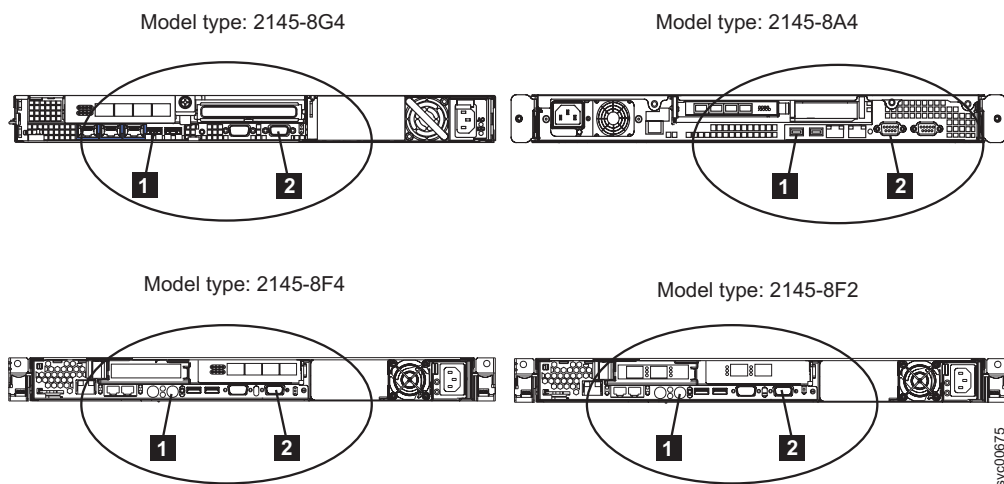
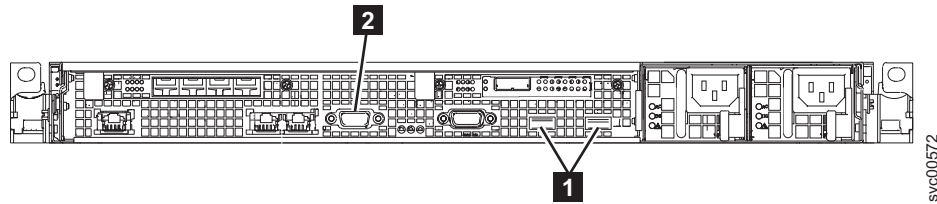
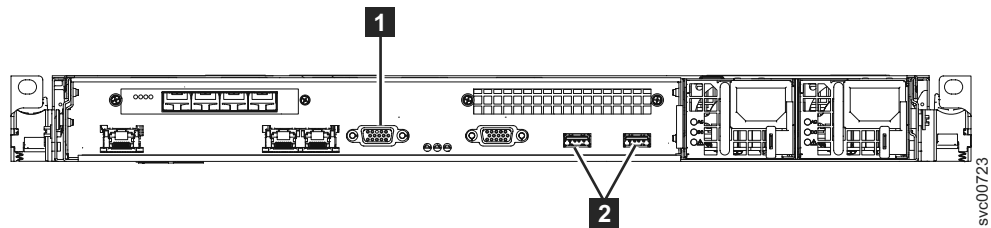

Figure 105. Keyboard and monitor ports on the SAN Volume Controller models 2145-8G4, 2145-8A4, 2145-8F4 and 2145-8F2
Figure 106. Keyboard and monitor ports on the SAN Volume Controller 2145-CF8
Figure 107. Keyboard and monitor ports on the SAN Volume Controller 2145-CG8
- b. Connect the keyboard **1** and the display **2**. Figure 105 shows the location of the keyboard and monitor ports. Figure 106 on page 299 shows the location of the keyboard and monitor ports on the 2145-CF8. Figure 107 on page 299 shows the location of the keyboard and monitor ports on the 2145-CG8.